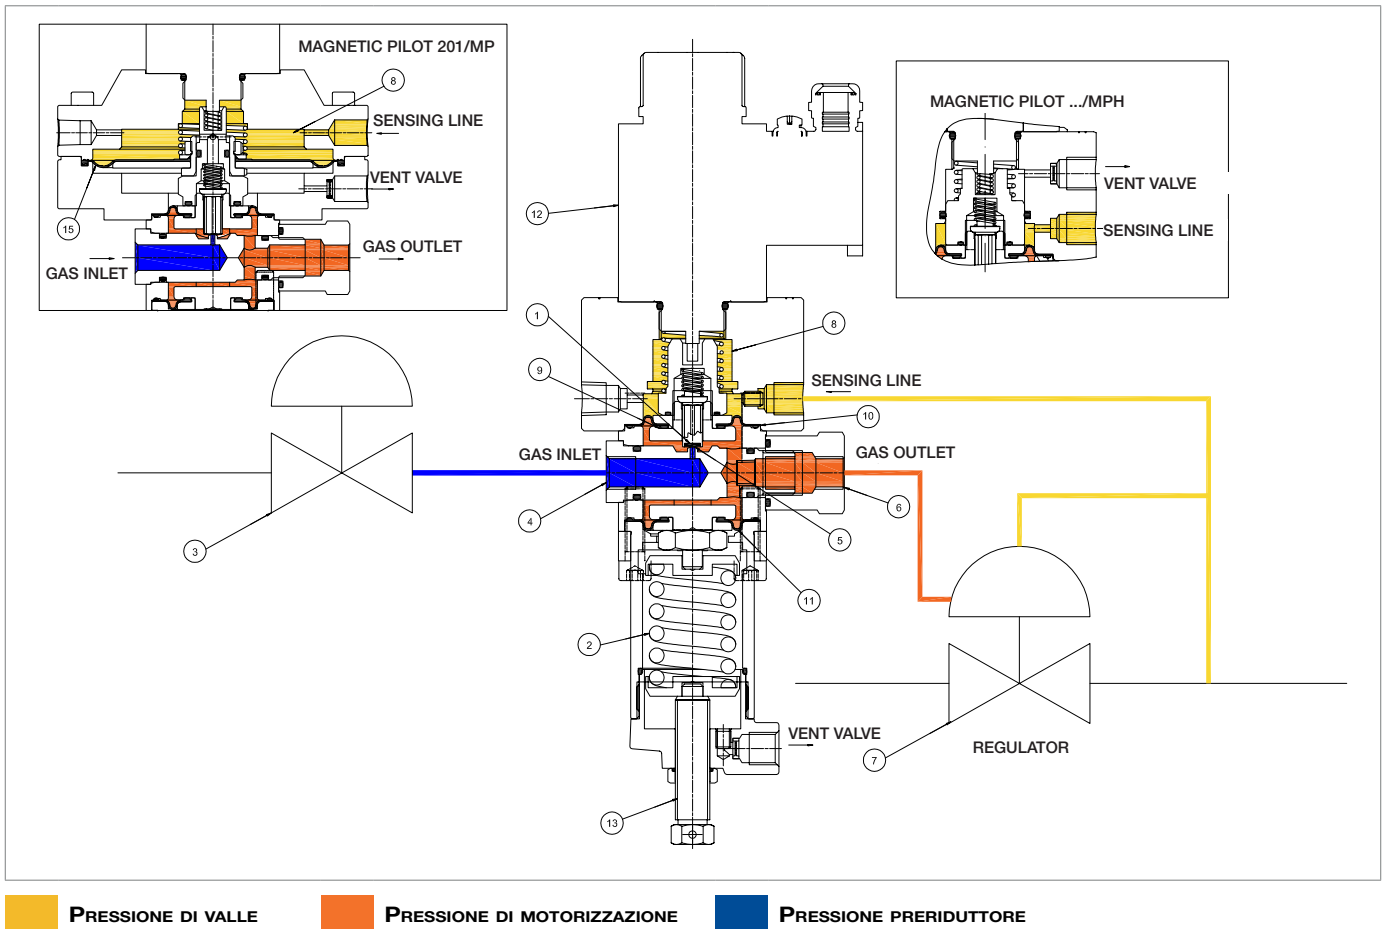
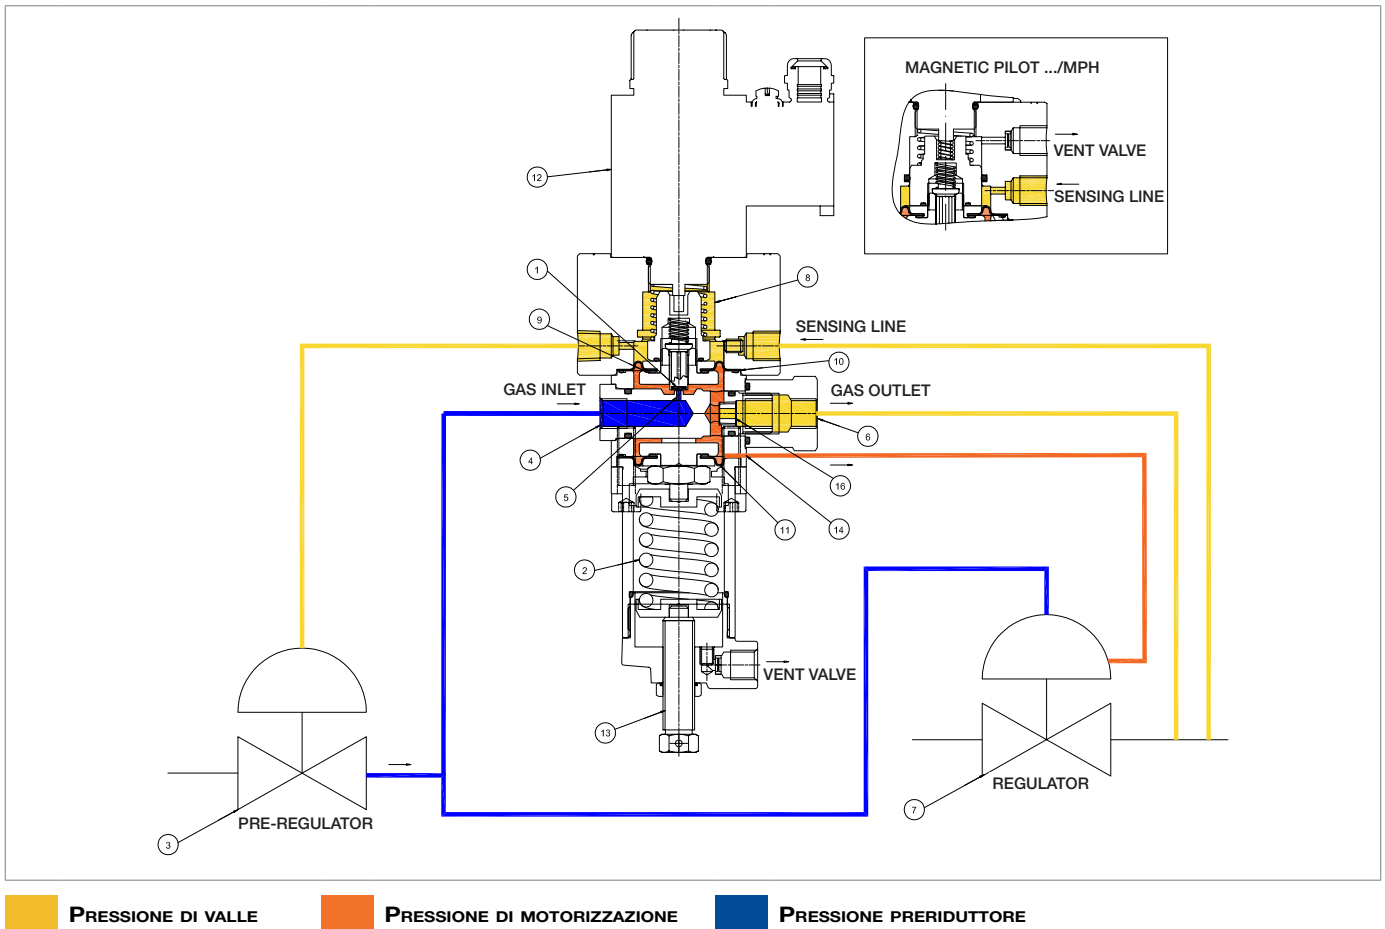

Fig. 4.4. Operation PILOT 200/MP
Fig. 4.5. Operation PILOT 200/MP/D/FO
Under normal operating conditions, the plug (ref. 1, Fig. 4.4, Fig. 4.5) of the pilot is self-positioned so that the loading pressure is such that the downstream pressure is maintained at around the set value.